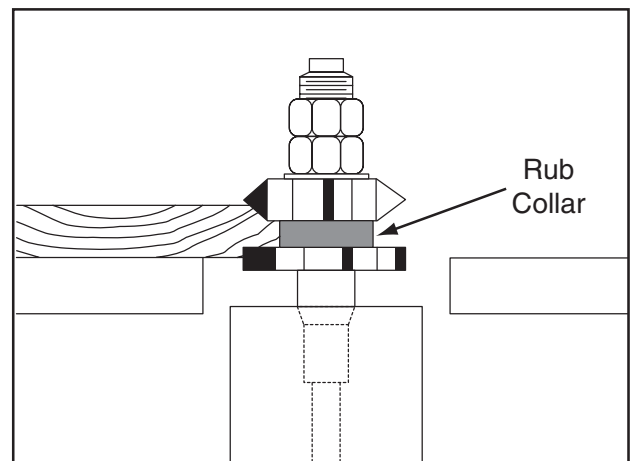

Figure 36. Rub collar installed between two cutters.
- **Rub collar between two cutters:** Using a rub collar between two cutters has the distinct advantage of performing two cuts at once or eliminating the need to change cutters for two different operations, as illustrated in **Figure 36**. Notice the part of the edge that is left uncut rides on the rub collar.